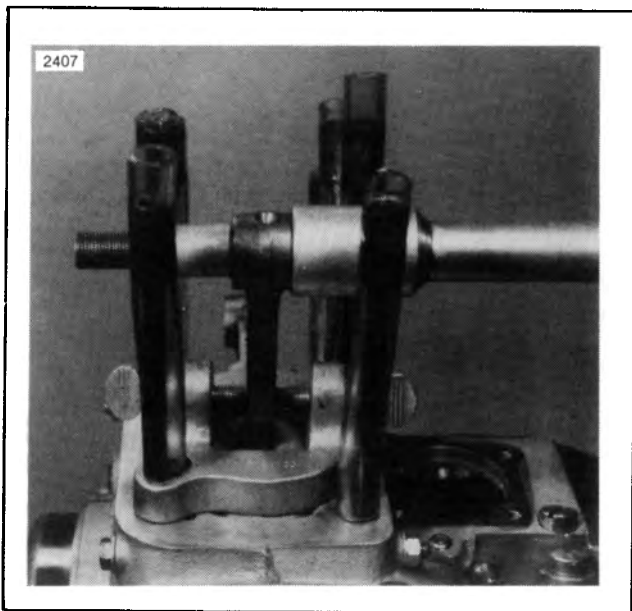

Figure 3-25. Replacing Rod Bushing
Rod Bushings (Figure 3-25)
1. See Figure 3-25. To use CONNECTING ROD CLAMPING TOOL, Part No. HD-95952-33, you must first enlarge the holes in the tool. Place the tool over the studs taking care not to scratch or bend them. Install the plastic hoses over the studs wedging them inside the holes in the tool.